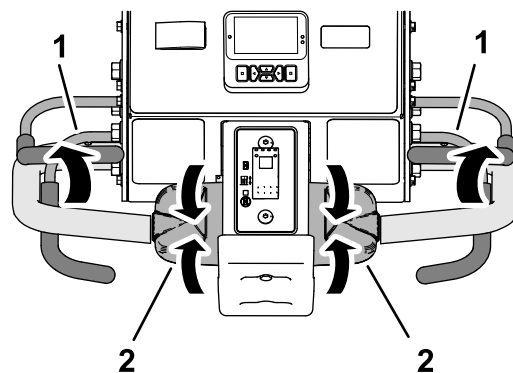

Figure 91
1. Release the traction control and allow it to move to the NEUTRAL position, and release the operator-presence bail (Figure 91).